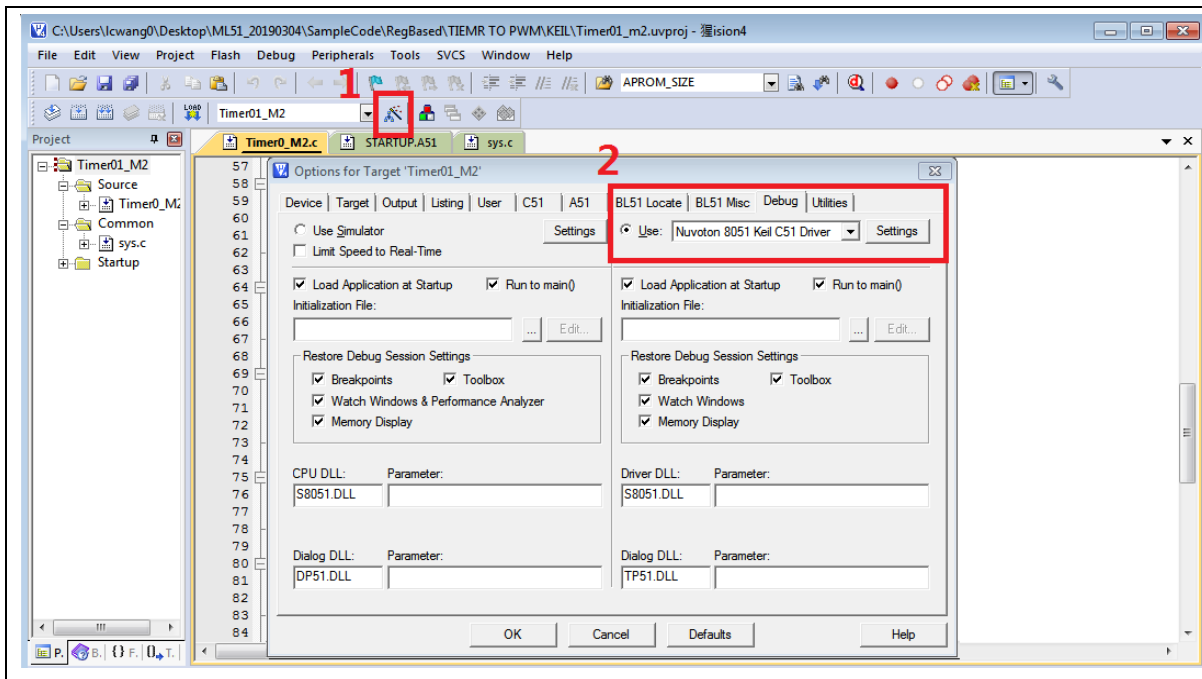
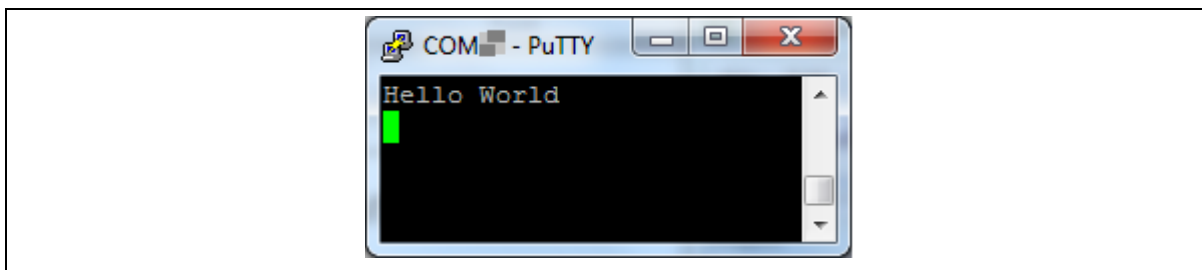

Figure 4-13 Keil PK51 Debug Mode
Figure 4-14 Debug Message on Serial Port Terminal Windows
4. Figure 4-13 shows the debug mode under Keil C51. Click “Run” and the debug message will be printed out as shown in Figure 4-14. User can debug the project under debug mode by checking source code, assembly language, peripherals’ registers, and setting breakpoint, step run, value